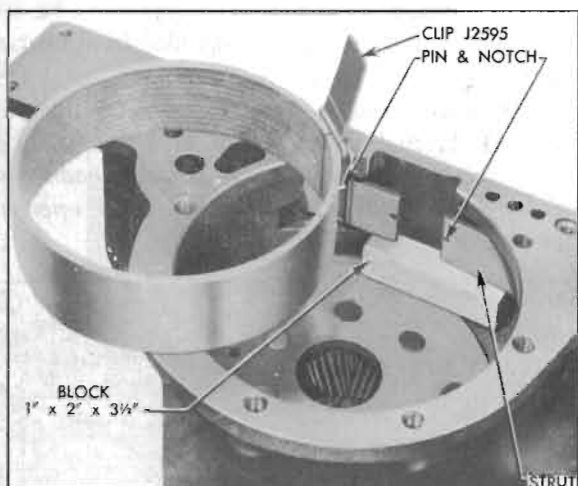

Figure 4-138—Installation of Low Band and Struts
2. With the assembly standing on end of rear bearing retainer, install a wooden block (1" x 2" x 3 1/2") as shown in figure 4-138. Set both low band struts in position on block, with plain ends engaging strut shoulder of operating lever and groove in anchor shaft and with notched ends together and about 3/16" from wall of case. Spread struts as far apart as possible.
3. Compress ends of low band with Band Installing Clip J 2595 (fig. 4-138). NOTE: A used band must be reinstalled in original position—heaviest wear will be at anchor end. A new band can be installed either way.